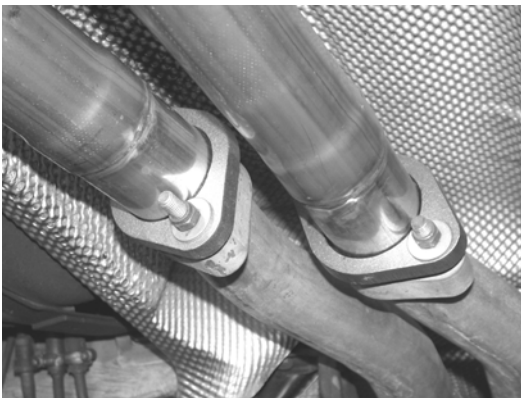

Figure 1
1. Unbolt the two flanges shown in figure 1, located just behind the catalytic converters and set the hardware to the side for the installation of your new system.